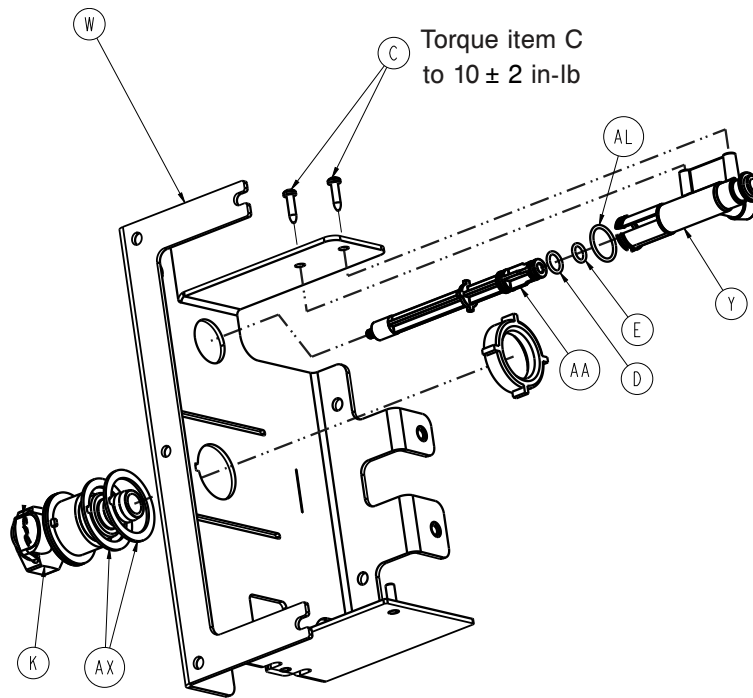

Figure 19 – Drain valve screws
7. Pull up and rotate the fluid bracket to access drain valve screws (C) (Figure 19).